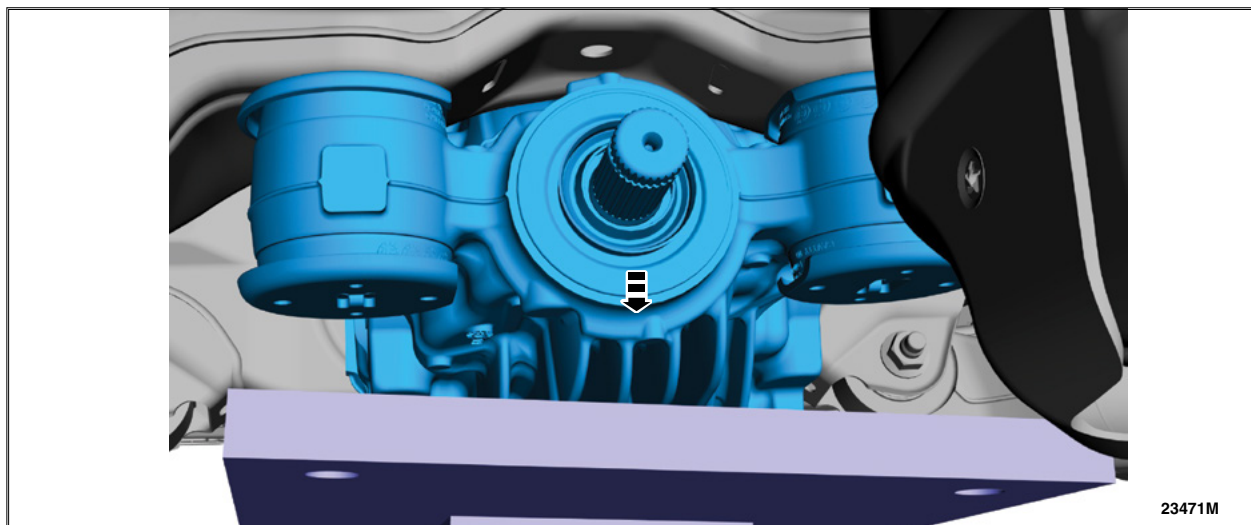

FIGURE 14
21. Gently lower down the transmission jack and remove the rear axle assembly. See Figure 14.